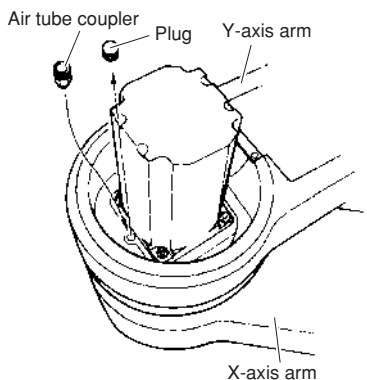

Fig. 5-31
- 6) Remove the plug on the top of the Y-axis arm. (See Fig. 5-31.)